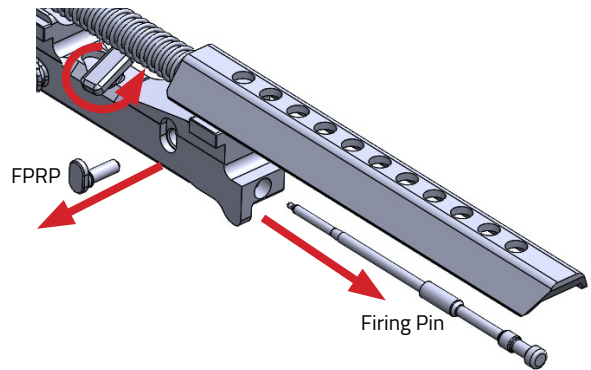

Fig. b-1
1. Use a pen or a 1/8 Punch, press the firing pin retaining pin (FPRP) out of the bolt carrier group from the right to the left. (Fig. b-1)
2. Tilt the bolt carrier group upwards and drop the firing pin out. (Fig. b-1)